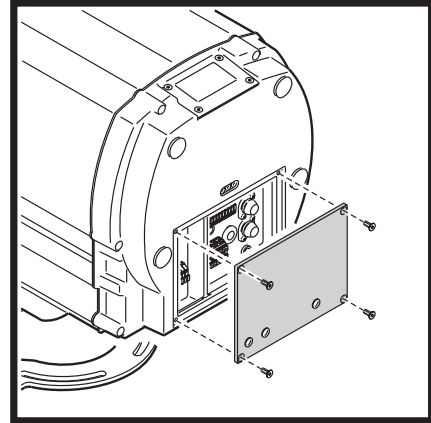

Figure 7: Connections compartment cover plate
3. See Figure 7. Loosen the screws in the rear cover plate and carefully remove the plate and seal.